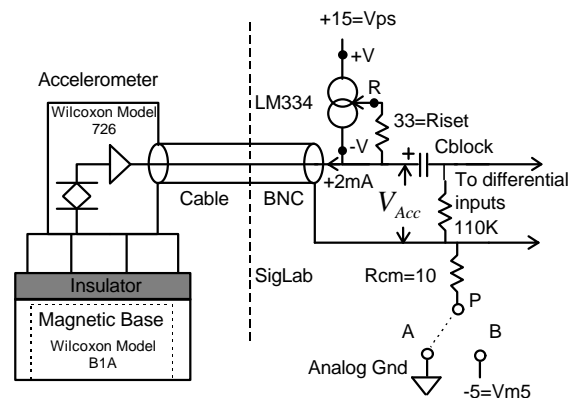

Figure 1 - SigLab Accelerometer Bias Source
Figure 1 illustrates a bias source constructed with three resistors, one capacitor, and one integrated current source (LM334). The largest positive power supply voltage, V_{PS} , available directly in SigLab is $15 \text{ V} \pm 3.5\%$. This sets an upper voltage limit for which the current source can supply a constant current. The current level supplied by the National Semiconductor LM334 is set by an external resistor between its R and -V pins. A 2 mA current is produced with a 33 ohm resistor. The LM334 requires almost a 1 V difference between its +V / -V pins to keep the current at 2 mA.
In this configuration, the P-end of the Rcm resistor is returned to the system analog ground (the A position in Figure 1). Given the restriction of (2), and the fact that V_{BOV} can be 13 V, it becomes clear that there is not a great deal of range remaining for the signal:
The circuit in Figure 1 with a Wilcoxon Model 726 (100 mV/g) accelerometer was used to determine the noise performance of the accelerometer interface.
The circuit in Figure 1 can be modified to handle accelerometer voltage outputs about 10 times as large as the previous version. This is possible because SigLab has a differential input amplifier. Instead of returning the P-end of the Rcm to analog ground, it can be returned to the -5 V power supply (the B position in Figure 1). This provides an effective $V_{PS} = 20$ V assuming nominal +15 and -5 V supplies. The -5 V dc term is then a common mode signal to the differential input and greatly attenuated. Applying equations (1) and (2) with nominal power supply values yields:
Therefore, a short circuit between the case of the accelerometer and a safety ground through the device being measured must be avoided. This is easily accomplished with an insulated mount such as the B1A from Wilcoxon Research shown in Figure 1. This insulated mount is useful in breaking ground loops (differences in voltage between the low side of the analyzer input and the machine being measured). Therefore an insulated mount is beneficial even when the low side of the accelerometer is grounded (the A position in Figure 1 or 7).